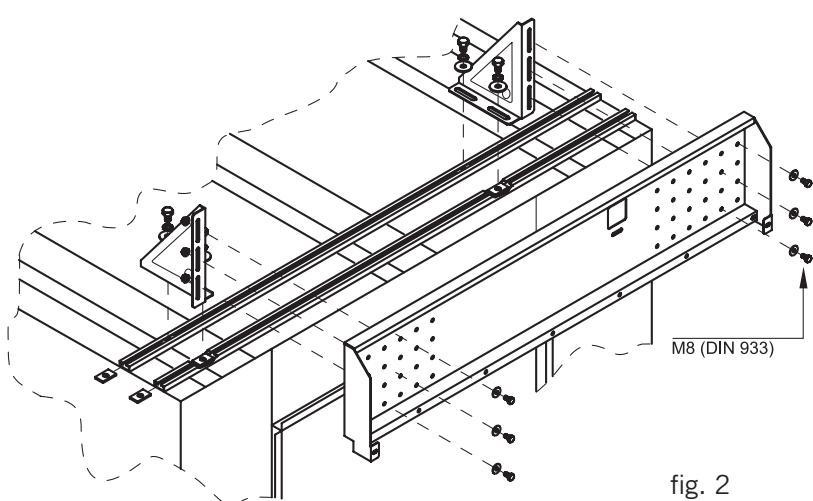

fig. 2
- 3º Tighten the operator to the brackets (fig. 2).
- 3° Tighten the air cord clamps (fig. 2).
- 2° Tighten the air cord clamps (fig. 2).